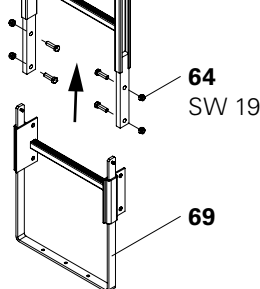

Fig. B1.38
3. Secure Ladder Base (30) (69) using Bolts ISO 4017 M12 x 40-8.8 (64), SW 19. (Fig. B1.38)